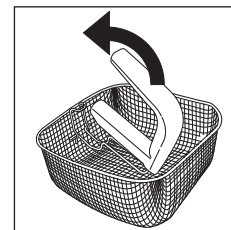

fig. 2
- Remove the basket from the fryer. Raise the handle as shown in fig. 2.